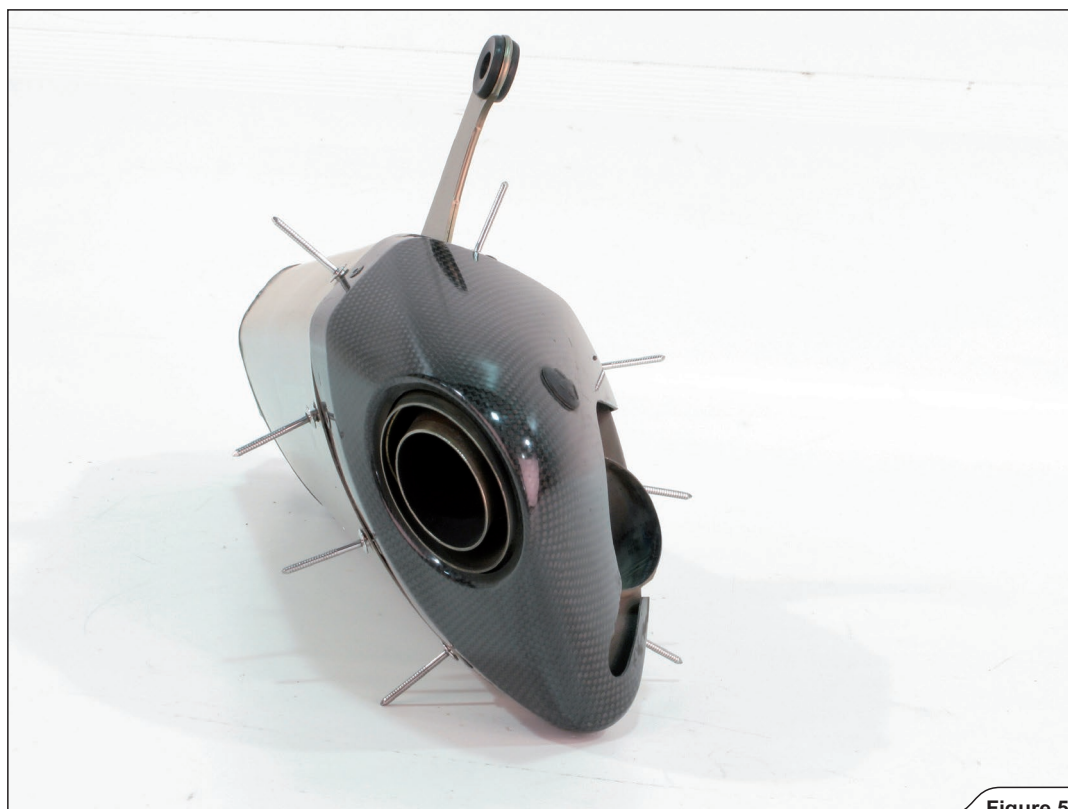

Figure 52
6. Insert the rivets supplied in the Akrapovič repair kit into the mufflers, as shown (Figure 52).